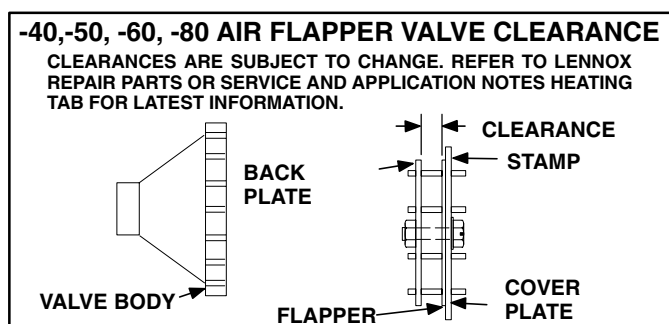

FIGURE 73
- To find potential warpage in the plates, check for the required clearance between the flapper and back plate in several places around the circumference of the valve. See figure 73. Use a feeler gauge, starting small and working up to the clearance dimension until the gauge is just about snug.